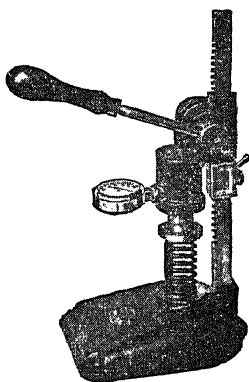

Fig. 34. Testing Valve Spring with Stevens Valve-Spring Tester
**Valve Spring Tester.** The Stevens valve-spring tension tester is shown in Fig. 34. It is a simple device which registers the number of pounds pressure demanded to set the valve spring to the predetermined size as shown by the gauge. Most car manufacturers furnish specifications relative to the pressure required to set the springs on their product to the point which represents open valve conditions. This dimension is stated in inches.